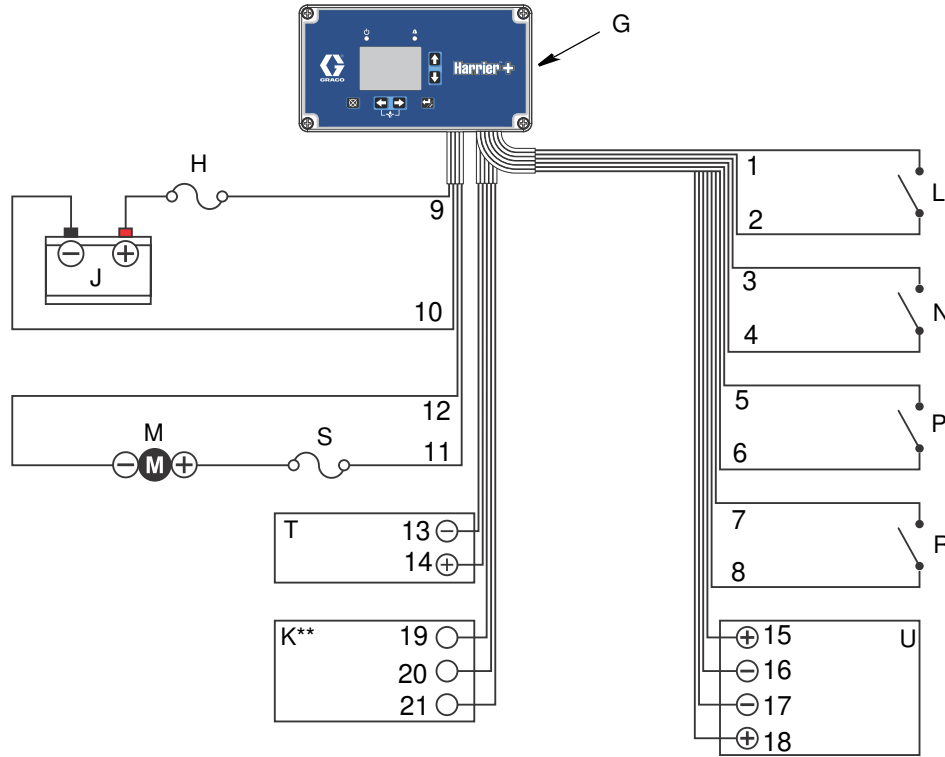

FIG. 2 Typical 12 VDC Installation
FIG. 2 is an example of 12 VDC installation. Your installation may differ from what is shown here. The Harrier+ controller (G), with wiring, is supplied by Graco. All other components are supplied by the customer. Contact your Graco distributor for assistance in planning a system to suit your needs.